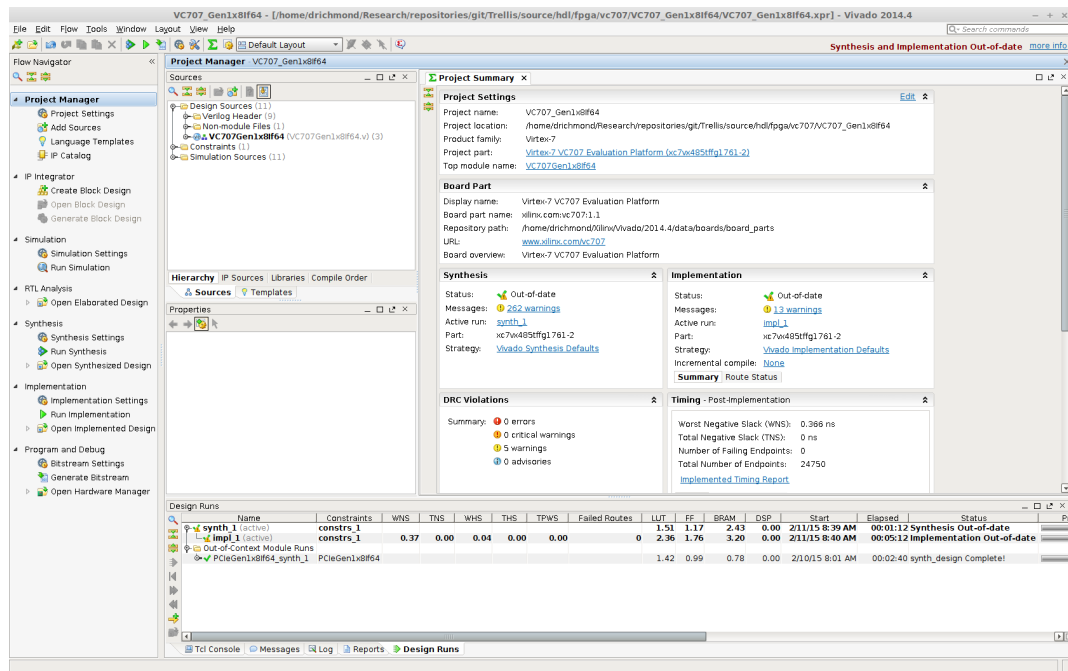
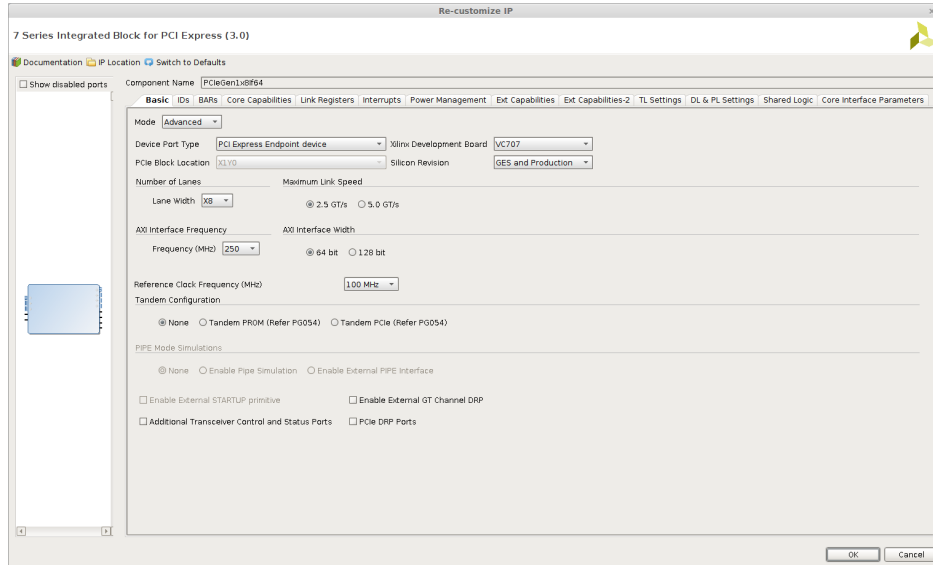

Figure 4.2: Project Splash Screen for 7Series Integrated Block for PCI Express Projects
Figure 4.4: Basic settings tab.
3. In the RIFFA 2.2.0 distribution, open *RIFFA 2.2.0/source/fpga/xilinx/vc707/* or *RIFFA 2.2.0/source/fpga/zc706* and choose from one of the existing example design directories for your board. In the example design directory, locate the *prj* folder and open it. Select the *.xpr* file and click open. This will open the example project, as shown in Figure 4.2.
- To recompile the example design, click the generate bitstream button in the top left corner as shown in Figure 4.2.
To generate the PCIe IP select the 7 Series Integrated Block for PCI Express after selecting the IP Catalog shown in Figure 4.2. This will open the IP Customization window as shown in Figure 4.4
In Figure 4.4 , we have set the **Xilinx Development Board** to **VC707**, selected the PCIe Gen1 rate **2.5 GT/s**, and a **Lane Width** of **8** (***C_NUM_LANES*** = 8). We have chosen to set the **AXI Interface Width** to **64-bits** (***C_PCI_DATA_WIDTH*** = 64). The choice of Link Rate, Lanes, and Interface Width will allow different AXI Interface Frequencies to be selected. The RIFFA core will run at this clock frequency, but the user logic can run at whatever frequency it desires.
Optional: Set the Component Name of the PCI Express block, and the IP Location. In our example projects, we use the name template PCIeGen**W**x**Y**If**Z** where **W** is the PCI Express Version (**Link Speed** in Figure 4.4), **Y** is the lane width, and **Z** is the AXI interface width. The IP location is the *ip* directory in the example project.